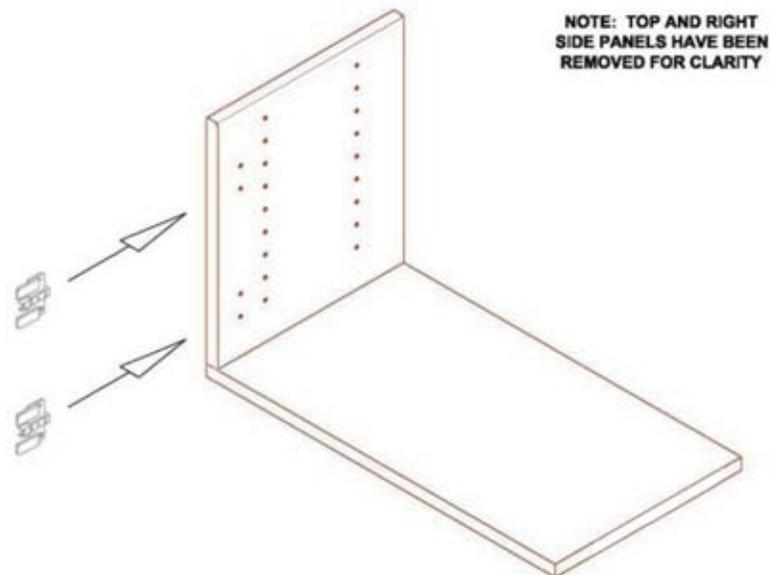

Figure 1
1. Take the (4) hinge plates with the arrows pointing toward the front of the conversion box and insert the two black pins on the hinge plate into the pre-drilled holes on the side panels (**Figure 1**). Make sure to press the plate firmly against the conversion box side and snap the levers closed.